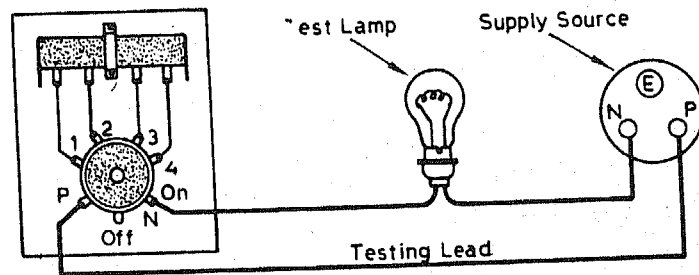

Fig. 26.3 Continuity Test.
- (vii) Connect the series test lamp with the terminals of regulator and main supply as per circuit given in Fig. 26.3. If lamp shows dim light on 1, 2, 3, 4, and full light on 'ON' and no light on 'OFF', it means regulator is alright.